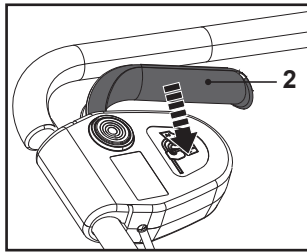

Fig. 14
1. Release the start lever (2) to stop the lawn mower (Fig. 14).